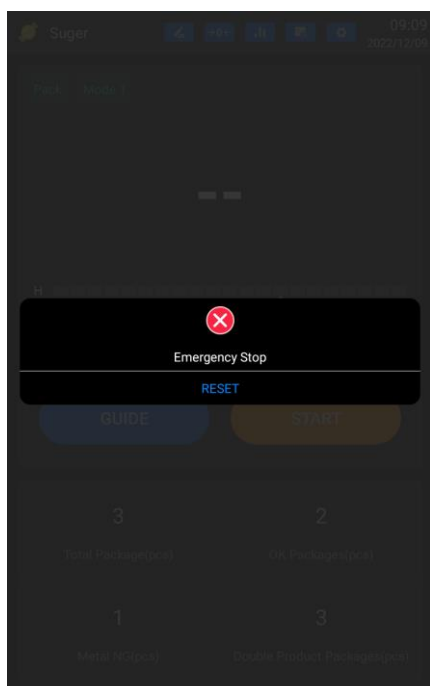

Figure 3-2 Emergency stop pop-up window
There are five situations that lead to the end of the test: ① After the user clicks the "STOP" button ; ② When the "Disqualified Product Processing Method" in the Product Edit-"Rejector Parameters" is set to "Stop", a substandard product is detected; ③ When the "reject confirmation" in the product edit-"rejector parameters" is in the open state, the unqualified product has not been rejected into the recycle bin or the number of products in the recycle bin reaches the set full bin quantity; ④ When the "Continuous unqualified alarm and shutdown" in the system settings-"Other parameters" is in the on state, and the number of unqualified products continuously appearing reaches the set number of continuous unqualified; ⑤ During the detection process, if an emergency occurs, be sure to press the emergency stop button immediately. At this time, the test will end immediately and a warning will pop up on the screen (Figure 3-2). After confirming the safety of personnel, the user can pull out the emergency stop button. Then, the user can press "Reset" at the bottom of the window to make the warning window disappear.